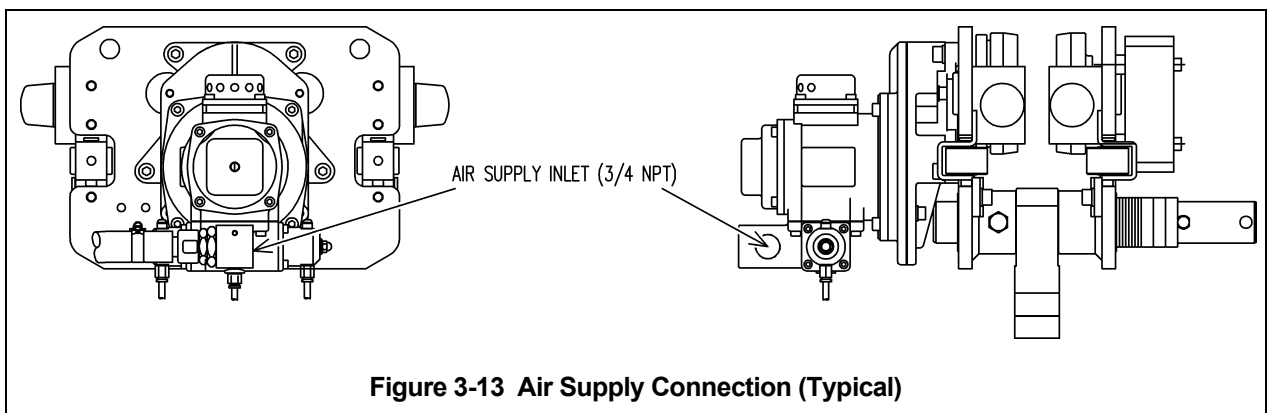

Figure 3-13 Air Supply Connection (Typical)
- 3.12.5 Make connections to air supply; reference Figure 3-13.